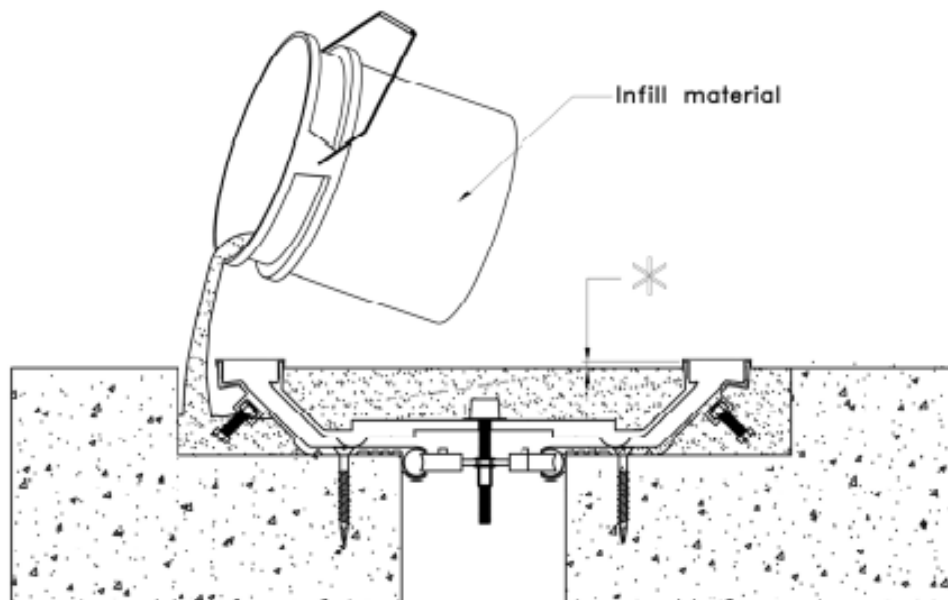

FIGURE 12
12. Pour infill material into blockout voids and pan cavity. *Warning! Leave required recess for floor finish, finish material thickness, and proper placement. **SEE FIGURE 12**